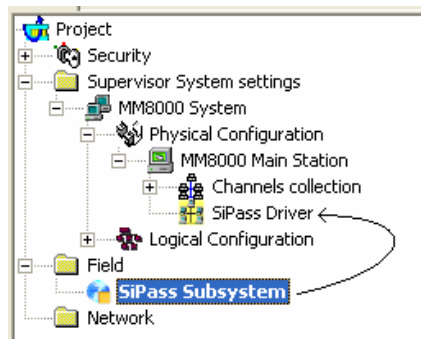

Fig 3 Linking the SiPass subsystem
2. Drag and drop it on the SiPass Driver (Fig 3).